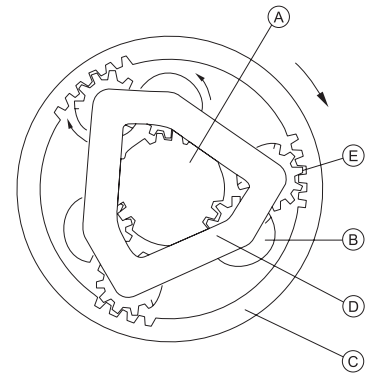

Figure 3-18
To obtain an output rotation direction opposite to that described above, you just need to add a group of planetary gear (E) (see Figure 3-18). The (A)→(B)→(E)→(C) motion transmission form is the structural principle of the second row of the planetary gear mechanism.